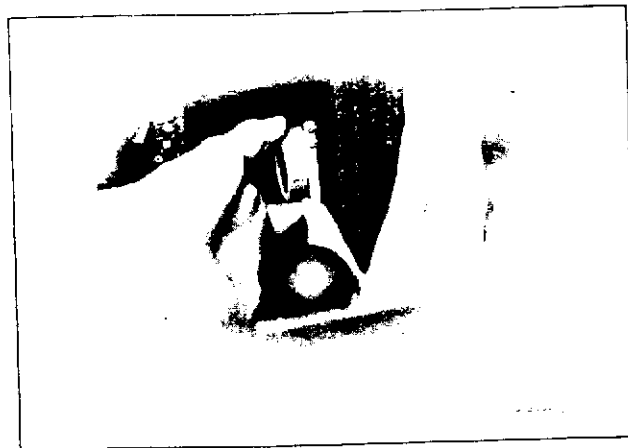
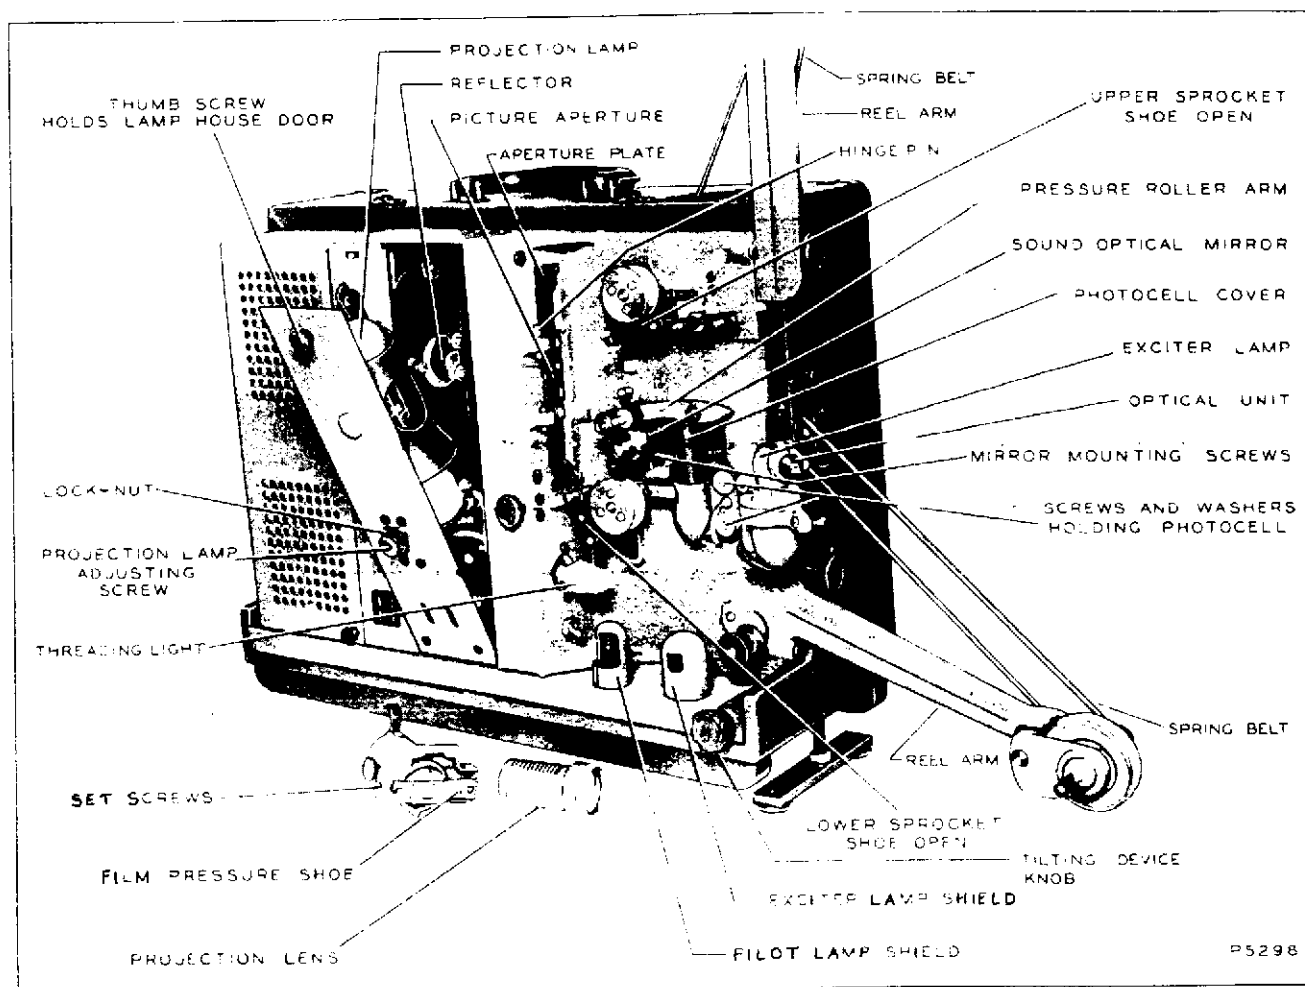

Figure 7—Removing Condenser Lens
Figure 8—Cleaning and Maintaining Projector
- (1) Reflector
- (2) Condenser (fig. 7)
- (3) Picture aperture
- (4) Projection lens
- (5) Photocell
- (6) Exciter lamp
- (7) Sound optical unit
- (1) Remove all dust from the larger surfaces of the projector.
- (2) Clean the two sprockets with the bristle brush supplied, moistened with carbon tetrachloride. Make sure that all dust and emulsion deposits are removed from the teeth.
- (3) Remove the film gate. (This can be done by lifting the hinge pin (fig. 8) against the spring holding the pin down.) Inspect the aperture plate and the film shoe very carefully. Remove any accumulated emulsion and other dirt with a soft cloth, or if necessary to reach into the corners, with a flat-pointed toothpick. After all visible dirt is removed, feel over the entire surfaces of both the aperture plate and the pressure shoe to make sure that nothing abrasive remains.
- (4) Clean the sound drum with a soft cloth moistened with carbon tetrachloride. Be particularly careful to remove all dirt from the back edge of the drum. Avoid touching the sound optical mirror.
- (5) Clean the pressure roller with a soft cloth moistened with carbon tetrachloride.
- (6) Remove the condenser lens (fig. 7) and clean it as follows:
(c) Loosen the locknut (fig. 8) so that the adjusting screw is released.
b. *Exciter Lamp.* This lamp is of the pre-focused type and should require no adjustment after it has been seated properly in its socket. To replace it, refer to figure 8 and follow the directions below.
(1) Loosen the thumbscrew (fig. 8) that holds the sound optical bracket to the projector frame and swing this bracket away from the frame.
(2) Remove the exciter lamp shield by tilting it away slightly from the optical unit, and raising it out of the clamping fingers.
(3) Turn the lamp to the left until the holes in the flanges on the lamp base line up with the pins in the lamp socket. Then lift the lamp out.
(4) Insert a new lamp in the socket so that the holes in the base flange are over the pins in the socket. Turn the lamp to the right until it
(5) Clean the lamp inserted and then replace the shield.
c. *Photocell.* To replace the photocell, proceed as follows (fig. 8):
(1) Open the sound optical bracket as in b above. This permits access to the photocell.
(2) Remove the two machine screws which hold the photocell bracket in place.
(3) Pull the photocell bracket away from the projector frame. Remove the photocell cover and the photocell.
(4) Insert a new photocell in the socket and clean the glass with a soft, lintless cloth.
(5) Replace the photocell cover, making sure that the index slot in the cover lines up with the pin in the bracket, and press down firmly.
(6) Replace the photocell bracket and secure it with the two machine screws. Be sure the photocell bracket or cover does not touch the frame, thereby hindering the shock mounting.
(7) Close the optical bracket and fasten it with the thumbscrew.